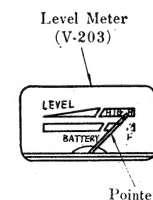

Fig. 5
1. Set power source voltage to 12V (DC).
3. Adjust 50KΩ potentiometer (R24) so that the pointer of the Level Meter stays as shown in Fig. 5.